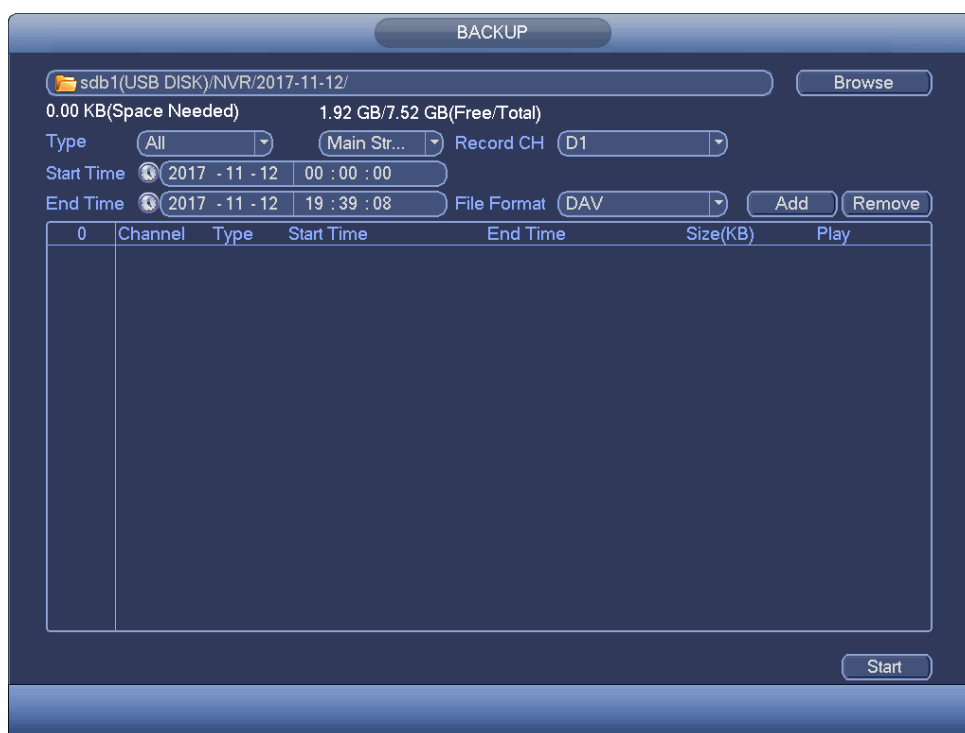

Figure 4-124
- From Main menu->Backup, you can go to the Backup interface. See Figure 4-124